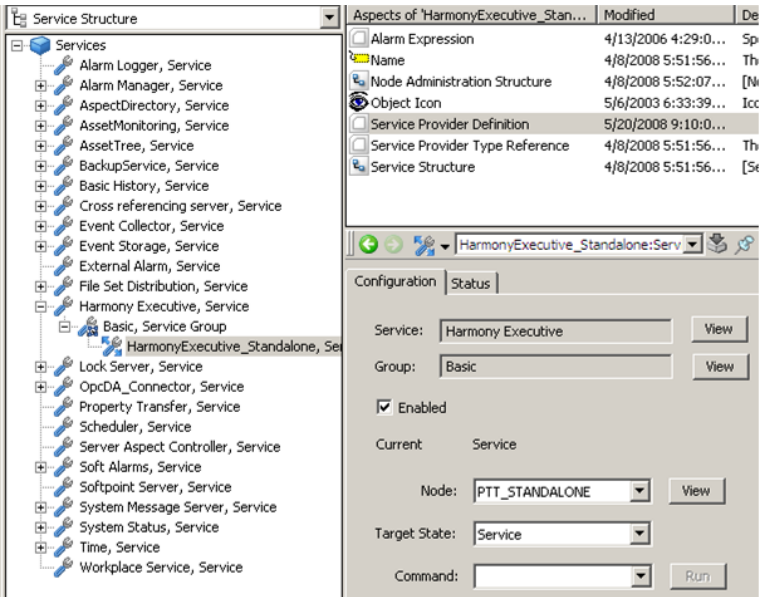

Figure 2. An Example of Harmony Executive Service
- a. De-select the **Enabled** option on the Configuration tab of the Harmony Executive Service located in the Service Structure as shown in Figure 2.